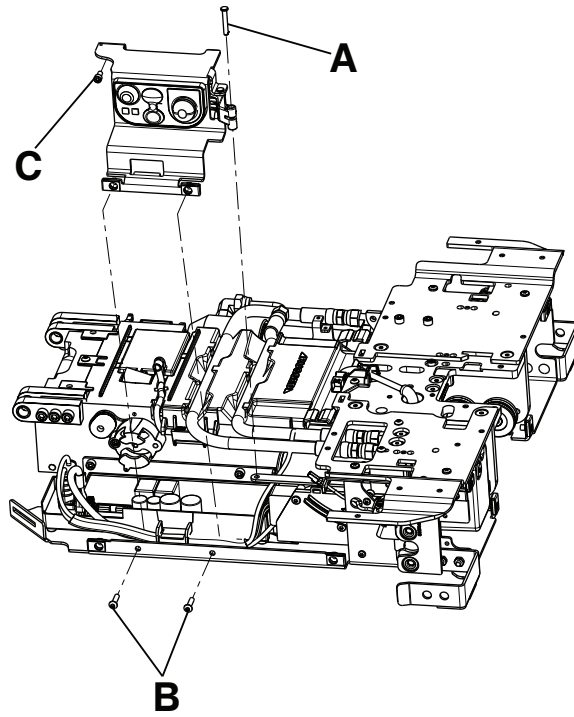

Figure 15 – Manual release button assembly
4. Remove the slic pin (A) from the switch/bracket assembly (Figure 15).
5. Using a T25 Torx driver, remove the two button head cap screws (B) that secure the manual release button bracket to the trolley frame (Figure 15).
6. Using a 5/32" hex wrench, loosen (do not remove) the socket head cap screw (C) that secures the manual release button bracket to the trolley frame (Figure 15).